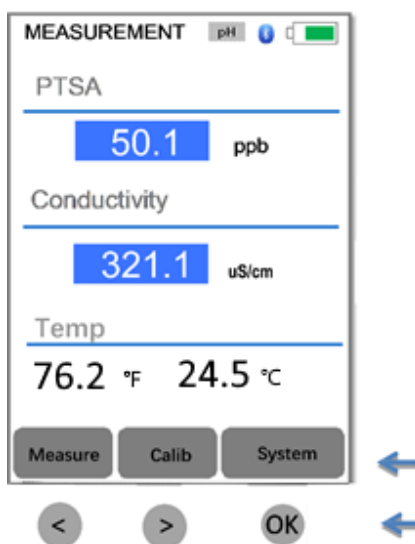

Figure 4. Control keys and associated functions
4. Following the orientation of the battery as shown in figure 4, put a new ER14250 battery into the compartment.
The SP-710 has three control keys, as shown in Figure 4. The left (<), right (>), and **OK** keys are used to launch actions indicated on the LCD screen directly above the keys. Note that the LCD screen is not a touch-enabled device; the labels above the keys indicate the function associated with the keys, and functions can be changed in different operation modes.
When powered on, the SP-710 is in the measurement mode of PTSA and Conductivity (as shown in Figure 4 above).
Allow five seconds for the SP-710 to reach stable readings. The time required to reach a stable reading may be slightly longer if the water sample temperature is significantly different than the environmental temperature at which the SP-710 had been equilibrated (stored). The values will be displayed in white with a **blue background** if a stable value is reached (Figure 4).